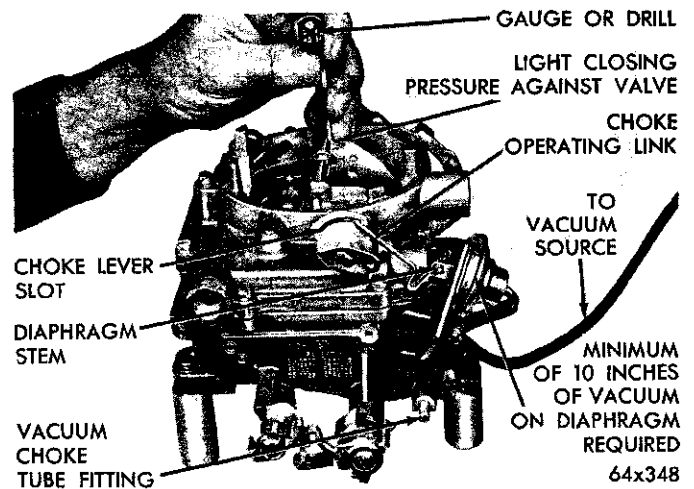

Fig. 14—Measuring the Choke Vacuum Kick Setting
(1) With the engine **Not** running, open the throttle valves far enough to allow the choke valve to be moved to the closed position.
(2) Disconnect the vacuum hose from the diaphragm and connect the hose from the vacuum supply, as shown in Figure 14. (A minimum of 10 inches of mercury (HG) will be required.)
(3) Insert a  $\frac{1}{8}$  inch drill or gauge between the choke valve and the wall of the air horn. (Refer to Fig. 14.) Apply a slight closing pressure to the choke shaft to hold the drill or gauge in position.
(4) An adjustment will be necessary if a slight drag is not obtained as the drill or gauge is being removed.
(7) Install the choke operating link and retest the choke valve opening, using a drill or gauge. (Refer to Fig. 14.)